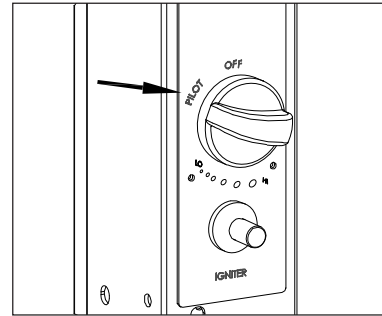

Figure 5
9. Push in and turn the control knob to the "LOW", then release control knob. If you want a lower temperature, push in the control knob and turn counterclockwise to the "HIGH" (Figure 5) .